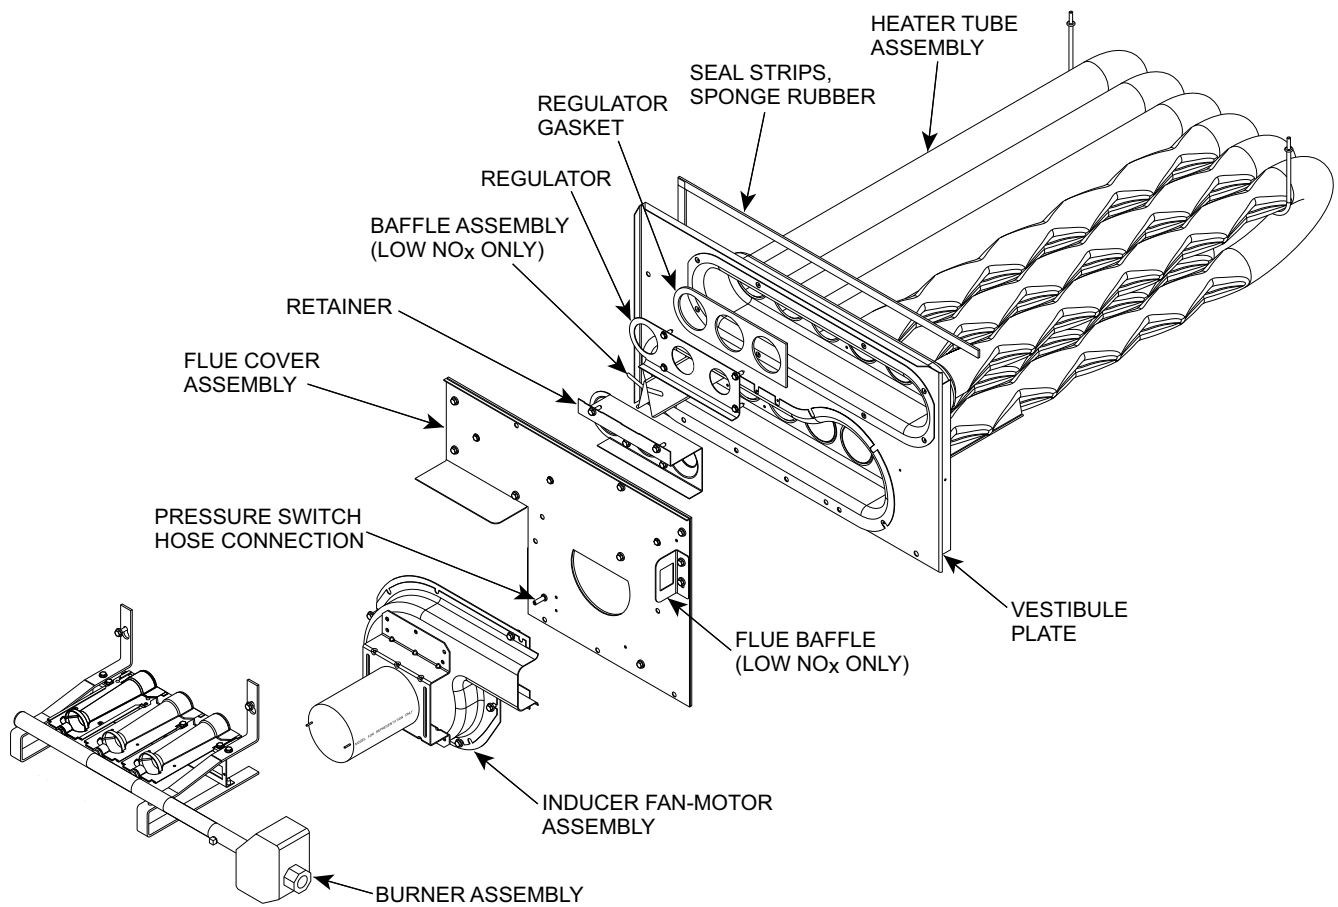

Fig. 50 — Heat Exchanger Assembly
1. Remove the combustion blower wheel and motor assembly according to directions in Combustion-Air Blower section. See Fig. 50.